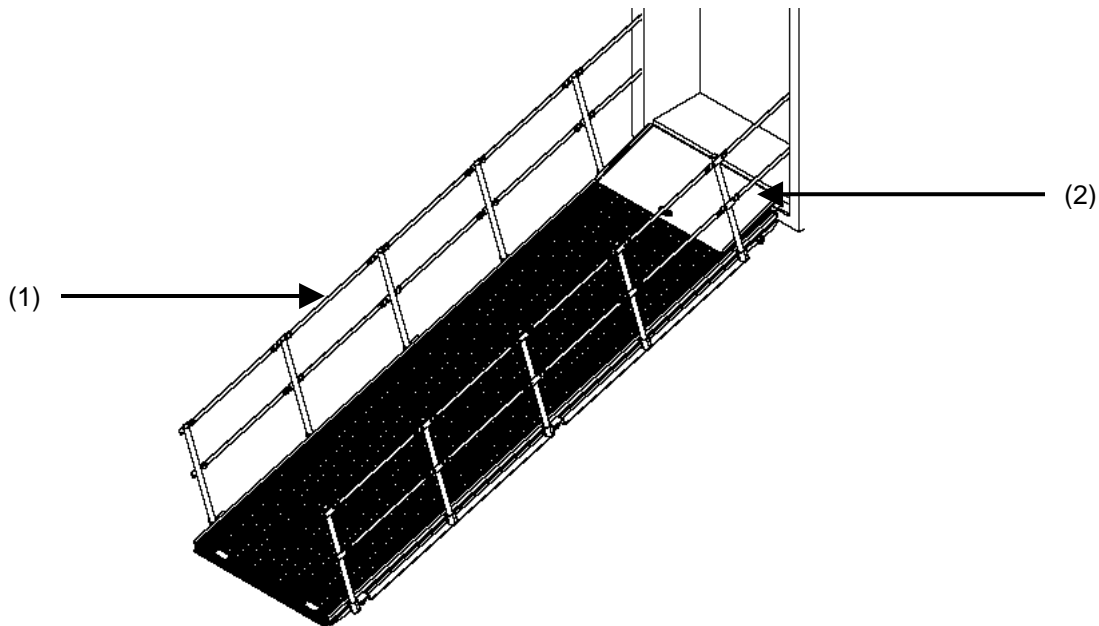

Figure 2-8. Ramp assembled.
5. Add threshold plate (2) between the end of the ramp and the door jam of the container (Fig. 2-8) when the door is open.
7. Install strapping (1) (Fig. 2-8) and tighten to desired tension.